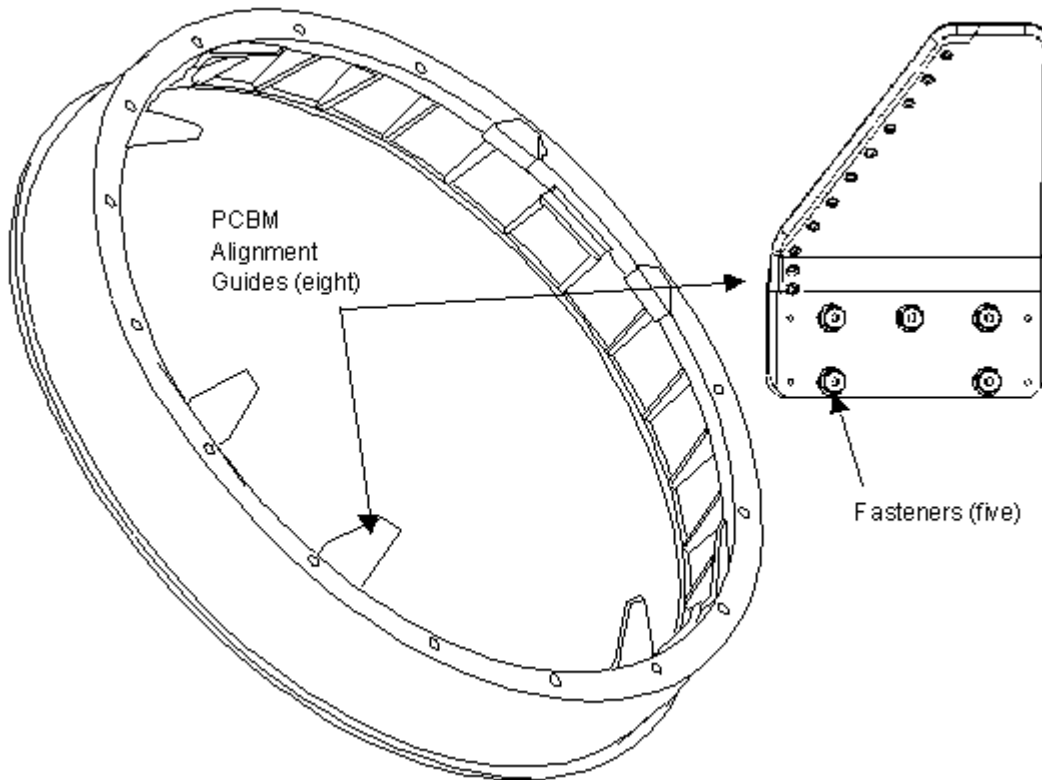

Figure 11. PCB Alignment Guides.
- 9.2 Remove PCB Alignment Guides covering Ground Strap Mounting Brackets, loosen Fasteners (five per alignment guide) (Ratchet, 1/4" Drive; 4" Ext, 1/4" Drive; 3/8" Socket, 1/4" Drive). Stow Alignment Guide in 12" x 12" Ziplock, labeled "NOD1-PMM CBM Hardware". Refer to Figure 11.